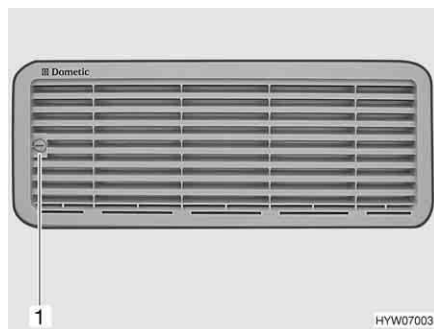

Fig. 60 Refrigerator ventilation grill
- Turn screw (Fig. 60,1) one quarter turn using a coin.